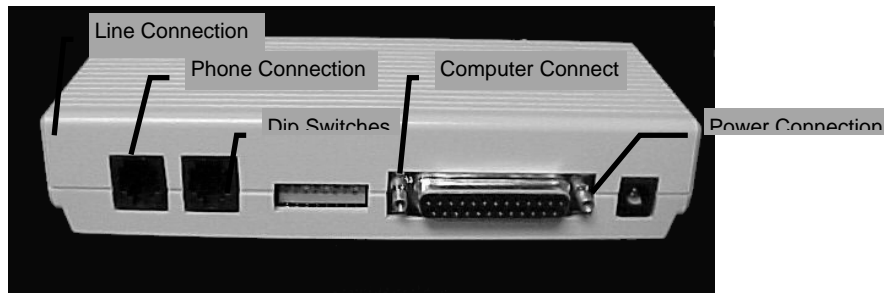

Figure 4
- There are two connections on the back of the modem. One is marked line and the other phone. (Fig. 4)